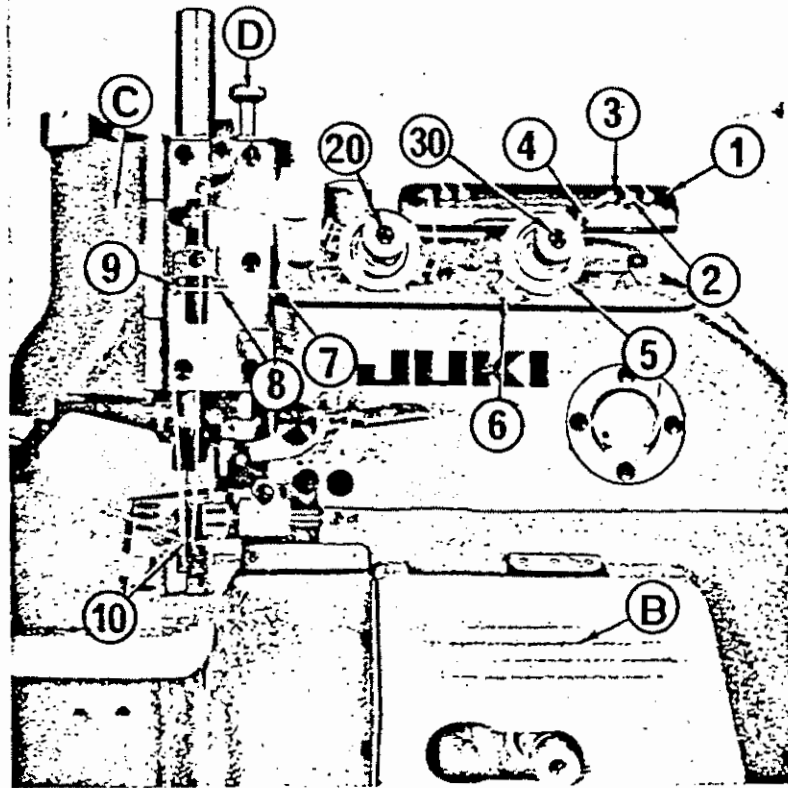

Fig. 12
④ To thread the safety stitch needle (Please see Fig. 12)
Open the face plate cover ③ to your left, pass the thread in the order of ①—④, through the hole of thread tension post, and from ⑤—⑩ in order as shown in Fig. 12.
⑤ To thread the safety stitch looper
[1] Adjust the overlock stitching needle thread by 29 of Fig. 12.
- [4] Adjust the safety stitch needle thread by ③ of Fig. 12.
pressure of the presser foot can be done by turning the presser adjusting screw ④, Fig. 12.